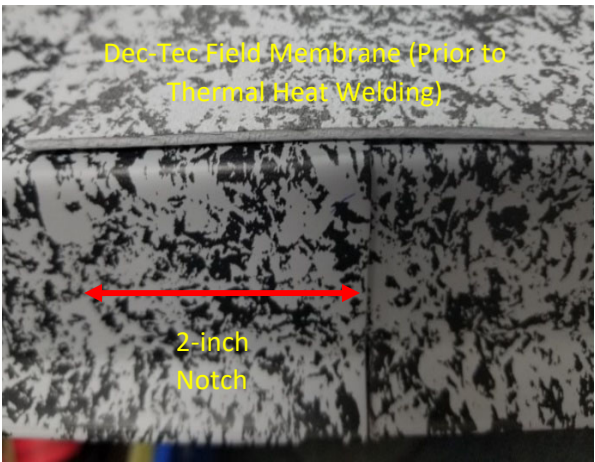

Figure 3 – Step 6
Step 06 Thermally heat weld the Dec-Tec membrane onto the Dec-Clad Drip Edge using recommended installation procedures. (Ref. Figure 3)